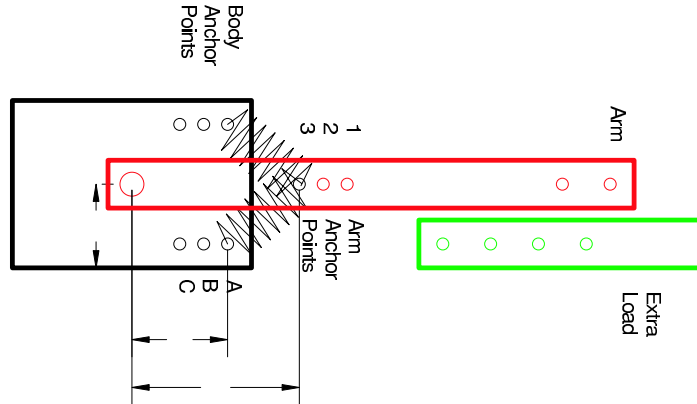

Figure 3: Diagram of the connections of the Flexible Joint.
8. Connect spring # 2 in the position $[A, 3]$, as you can see in Figure 3.